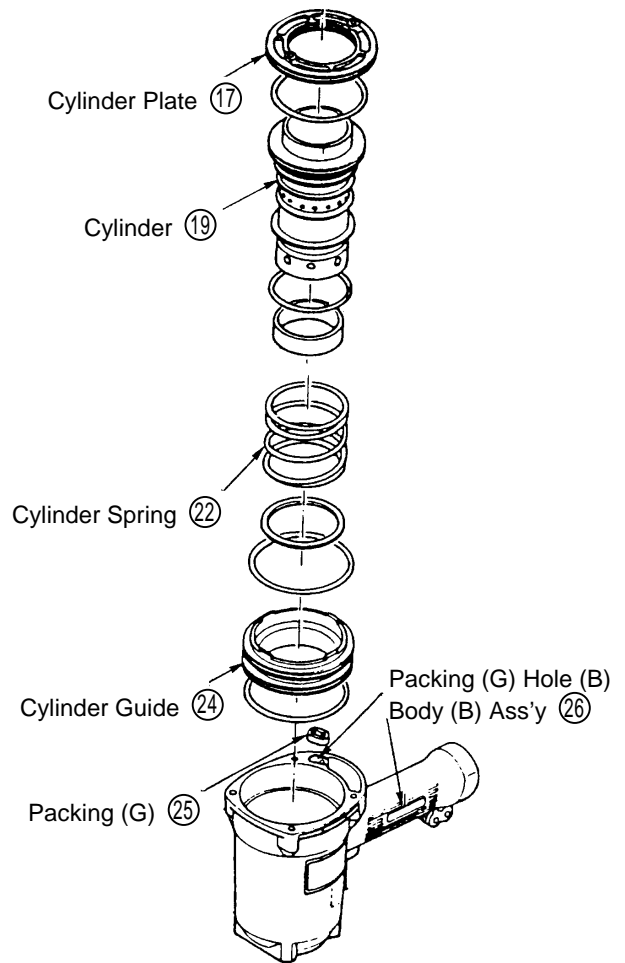
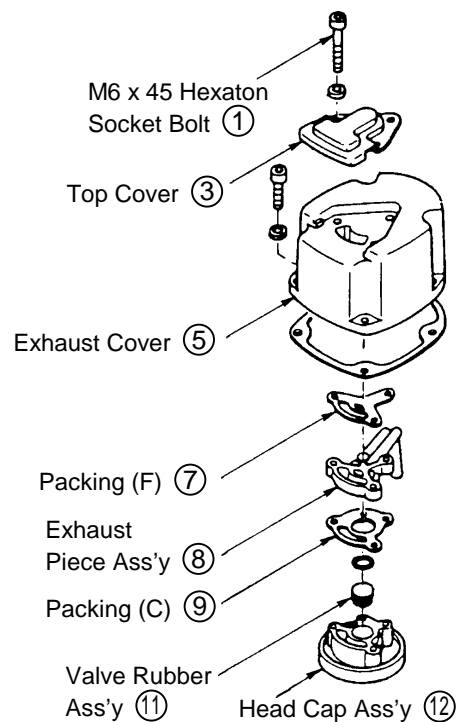

Fig. 11 Main body output disassembly
Fig. 12 Disassembly of main body, upper part:
The Cylinder ⑱, Cylinder Spring ㉒, and other components which constitute the Output System (see Fig. 11) can then be removed.
- As it should be difficult to remove the Cylinder ⑱, first remove the Tail Cover ㉓ as described in section 1-1-(1), and push the Cylinder upwards and out from below.
- Ensure that Packing (G) ㉕ is properly fitted to the shape of its matching hole in the Body (B) Ass'y ㉖, properly aligned with the assembly as shown in Fig. 11, and properly contacts the base of the Exhaust Piece Ass'y ⑧ (see Fig. 12).
(3) Head Cap Ass'y ⑫ Exhaust Piece Ass'y ⑧, and Related Parts:
- Remove the Exhaust Cover ⑤ as described in section 1-1-(2).
- Loosen the three M6 x 45 Hexagon Socket Hd. Bolts ① and, as illustrated in Fig. 12, remove the Head Cap Ass'y ⑫ Valve Rubber Ass'y ⑪, Exhaust Piece Ass'y ⑧, Packing (C) ⑨, and Packing (F) ⑦.